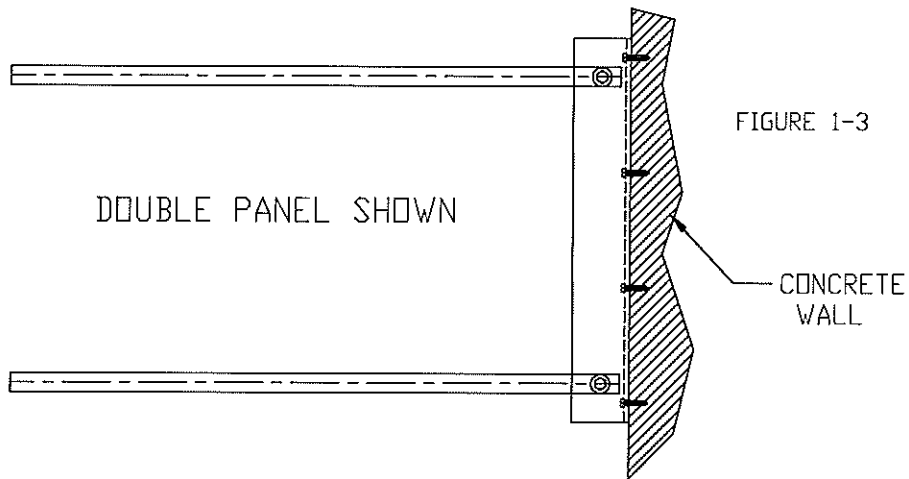

FIGURE 1-3
Step 8: Side by side panel installations. (Figure 1-3) Panels should be mounted 16" to 18" (On Center) O.C. to prevent tools from coming in contact with each other. **(For P/N B1-2 Double panel system repeat steps 2-7)**